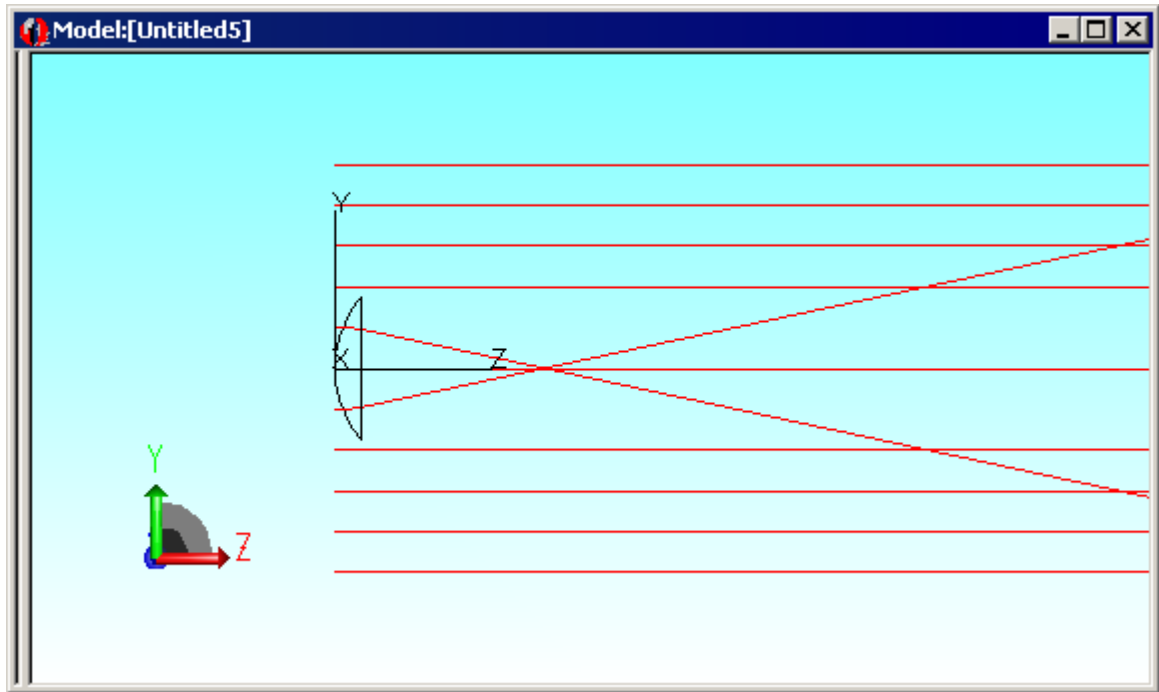

FIGURE 9.40 - Raytrace of single lens element
6. Trace the rays by pressing the *Trace This Rays* button. See Figure 9.40.